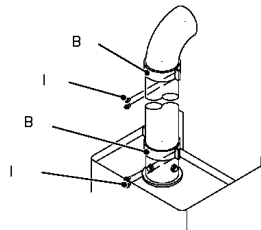

Figure 8
Install the intake pipe clamps (B) on the intake gaskets (E) as shown in Figure 8, using attachment screws (I)